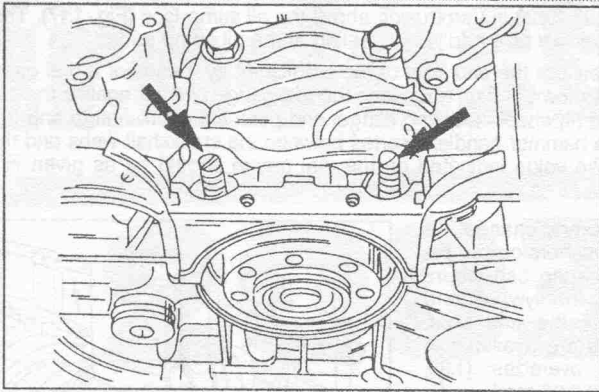

Fig. 1.16. — Installation of the rear main bearing cap. The arrows show the two studs in position. On the left and right are the two foil strips.
- Screw two studs into the cylinder block (in place of the bearing cap bolts) and place the bearing cap over the studs. The area where the bearing cap is resting on the cylinder block must be coated with a good sealing compound (left and right). Use two pieces of aluminium foil between side seal and cap on each side and carefully tap home the cap, checking at the same time that the seals cannot move (Fig. 1.16).